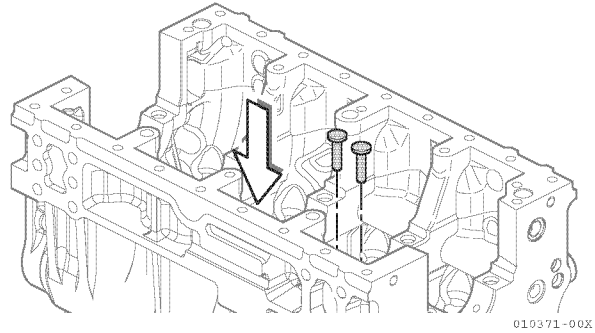

Figure 5-128
3. Coat the inside of the cylinder block tappet holes and the outside circumference of the tappets with engine oil, then insert the tappets in the cylinder block (Figure 5-128).